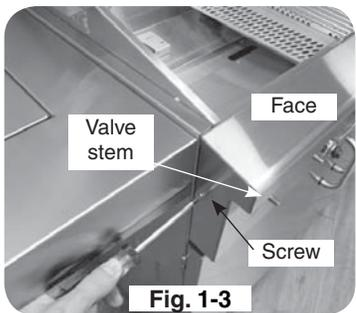

Fig. 1-3
5. With the burner valves in the **OFF** position, pull the valve knobs off of their stems. Use a Phillips screwdriver to remove the face fastener screws on each side of the face (see Fig. 1-3). Release the face by lifting it upward slightly. Once free tilt the top of the face forward and down. The ignitor knob need not be detached, but the wires must be unplugged from the generator before the face is removed completely. Retain the screws and finish washers for re-attaching the face plate later.